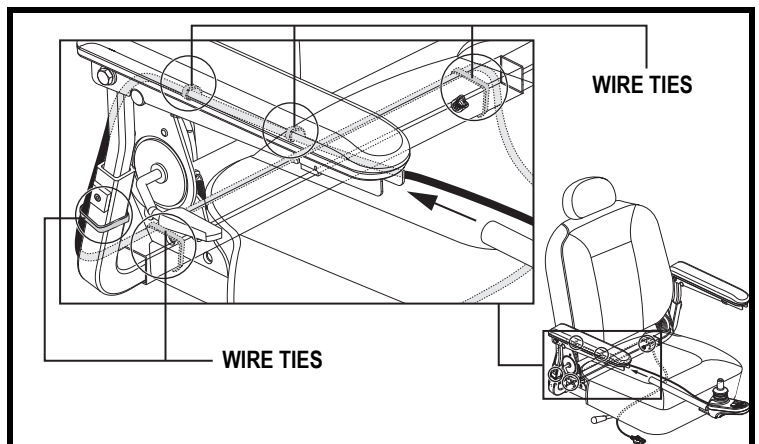

Figure 11. Controller Harness Routing
10. Route the controller harness along the seat frame and secure with wire ties. See **figure 11**.